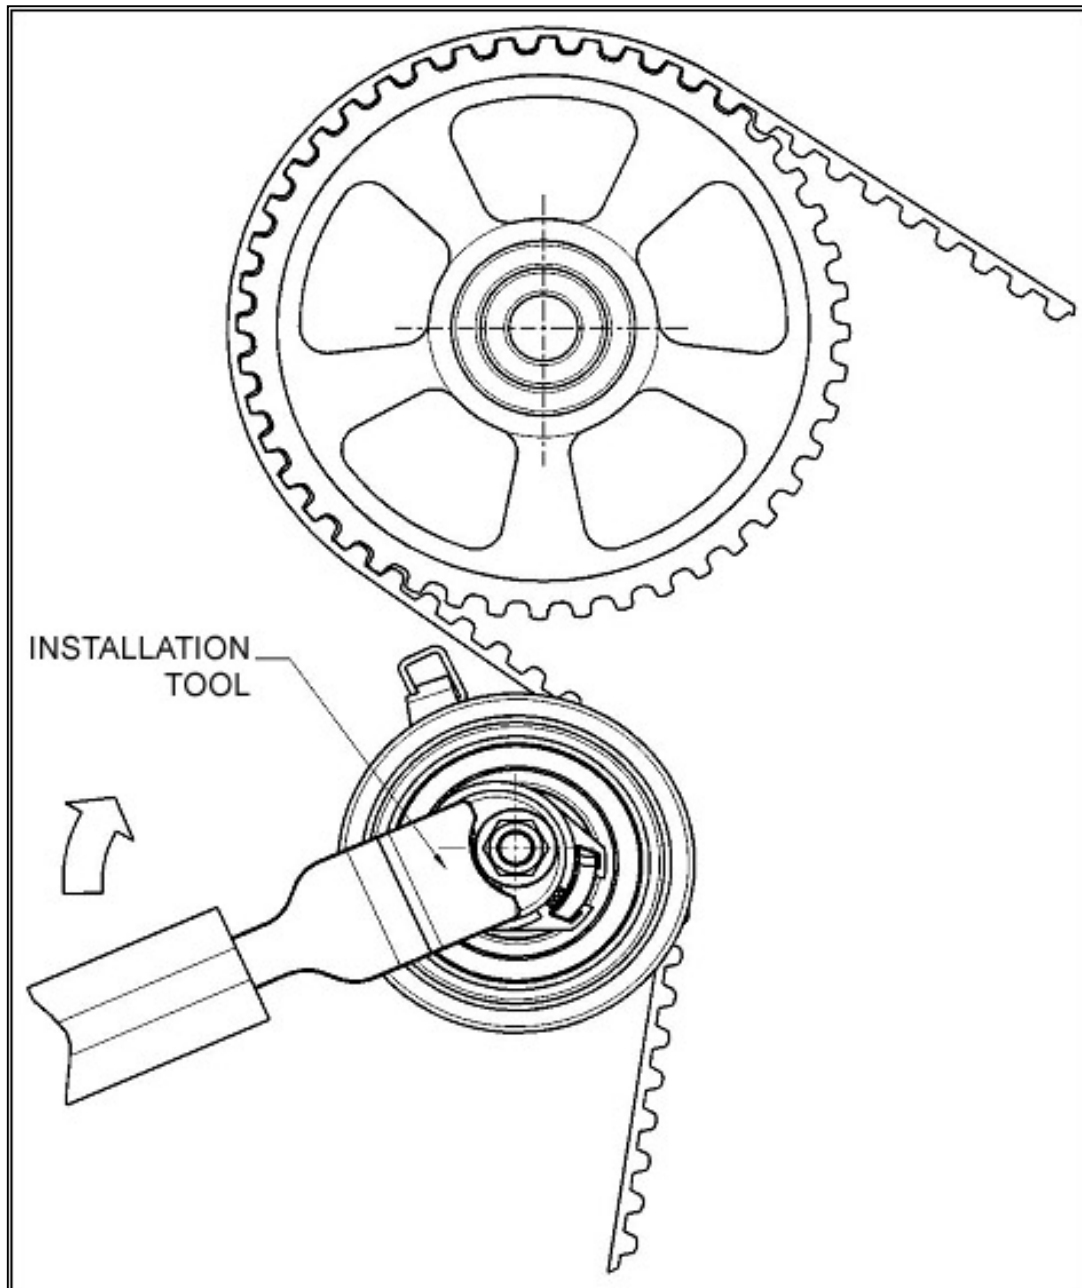
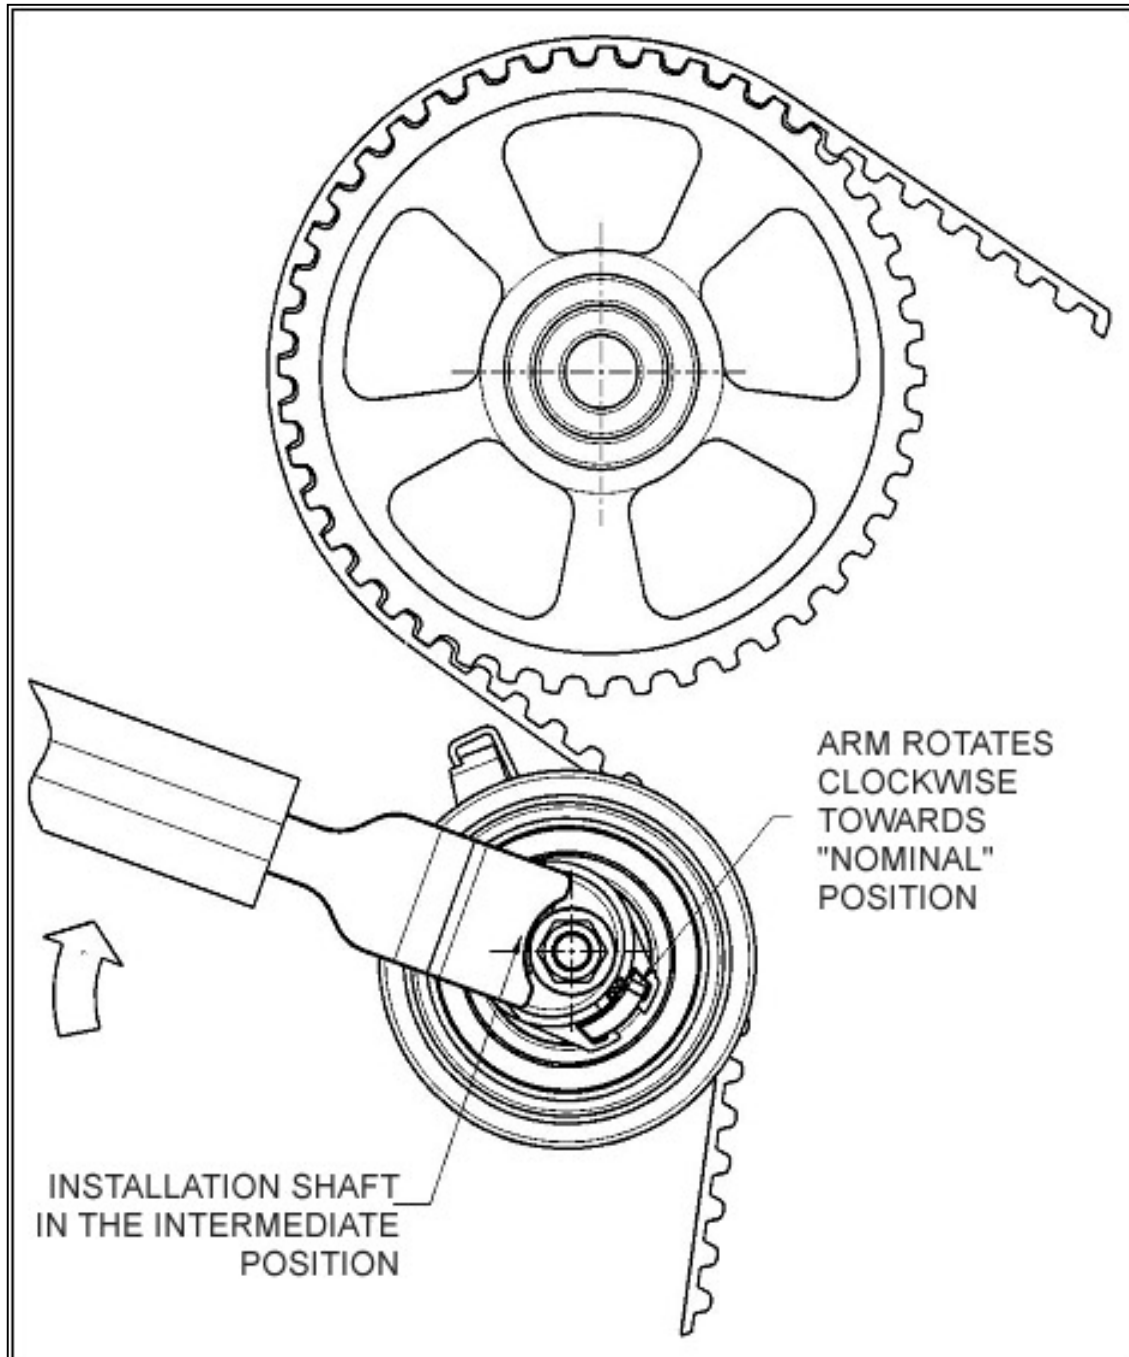

Figure 5: Hand-tighten the mounting nut. Fit the special installation tool on the installation shaft. Turn the installations shaft in clockwise direction.
Figure 6: Note: During the rotation of the installation shaft, the arm indicator starts to move from "free-arm" position towards nominal.
11. Rotate the Installation Shaft **CLOCKWISE ONLY** with the Installation Tool (Figure 5). Make sure to hold the mounting nut with a Wrench in order to prevent it from turning when rotating the Installation Shaft. The TBT assembly will move against the belt and the Arm will eventually start to move **CLOCKWISE** (Figure 6).